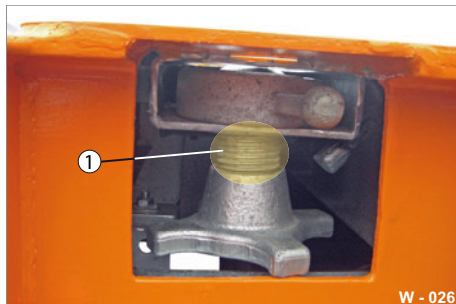

Fig. 25 Lubricating thread
- ▶ Lubricate the threaded rod (Fig. 25/1) with machine lubricant.